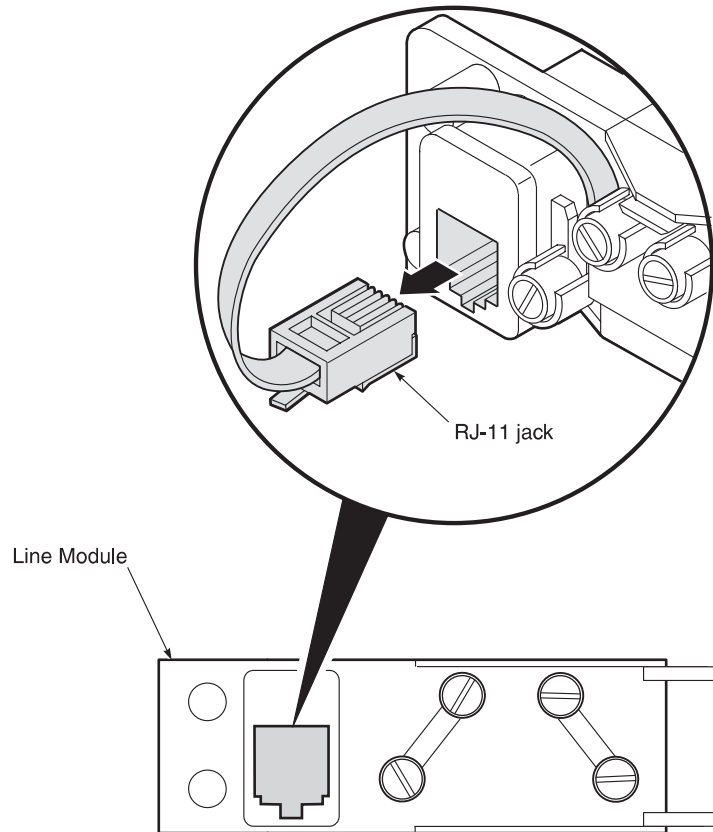

Figure 11. Unplugging the RJ-11 Jack
- 1 Open all the Line Module doors and unplug each RJ-11 jack to ensure there are no off-hook conditions present from the subscriber lines (Figure 11).